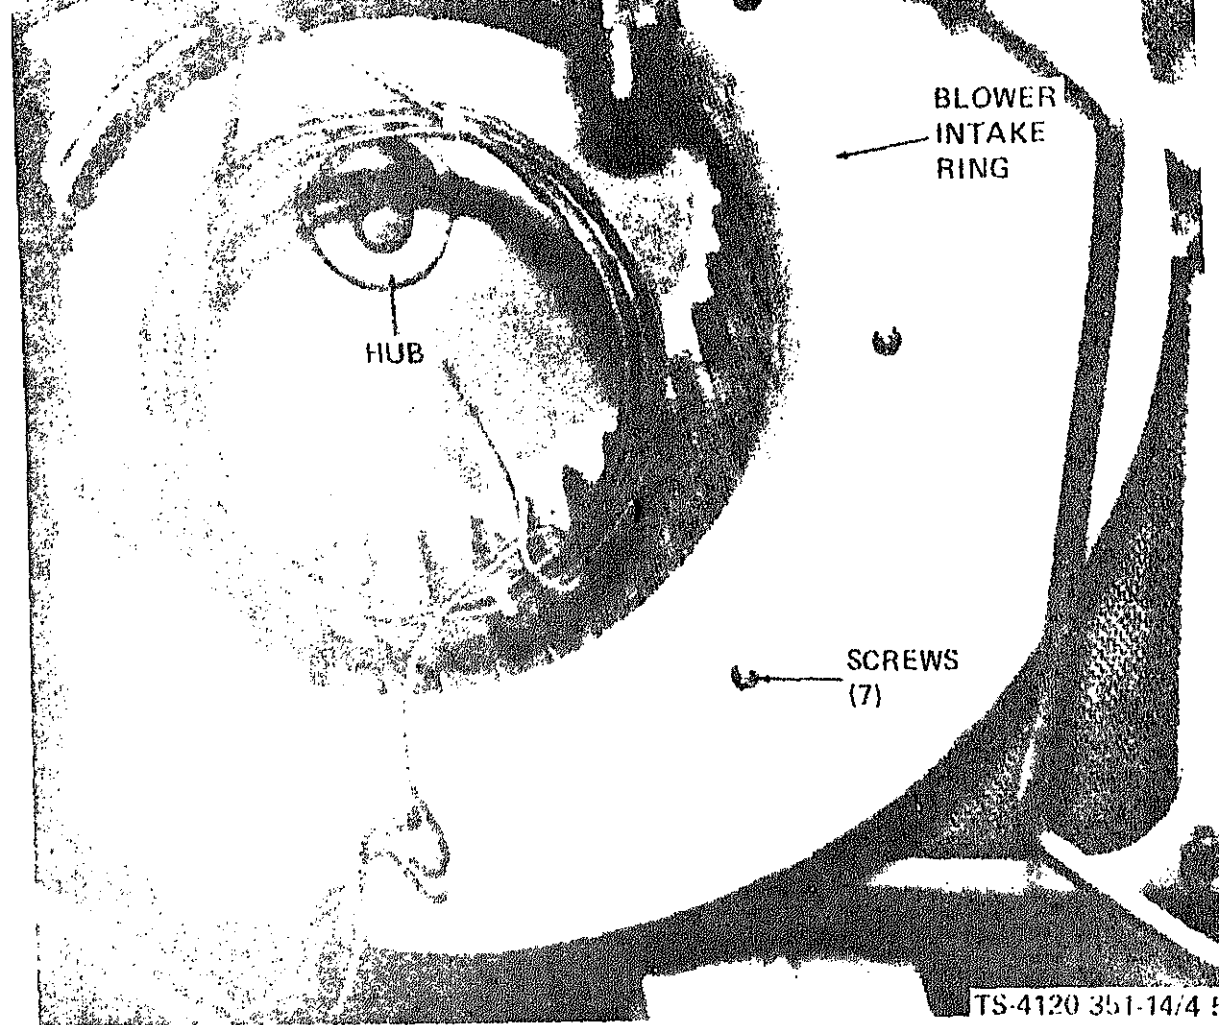

Figure 4-5. Circulating fan removal and installation.
(9) Remove blower intake ring (fig. 4-5) by re-
(4) Install blower ring (fig. 4-5) and se-
(2) Loosen mechanical screw post at rear of turn air grill and remove wire.
(6) Remove front panel by removing screws.
(7) Remove blower intake ring (fig. 4-5) moving seven screws.
(8) Loosen setscrew in hub of circulating fan and carefully remove circulating fan from air conditioner.
i. Remove blower intake ring (fig. 4-5) by removing seven screws.
e. Install blower intake ring (fig. 4-5) and secure with seven screws.